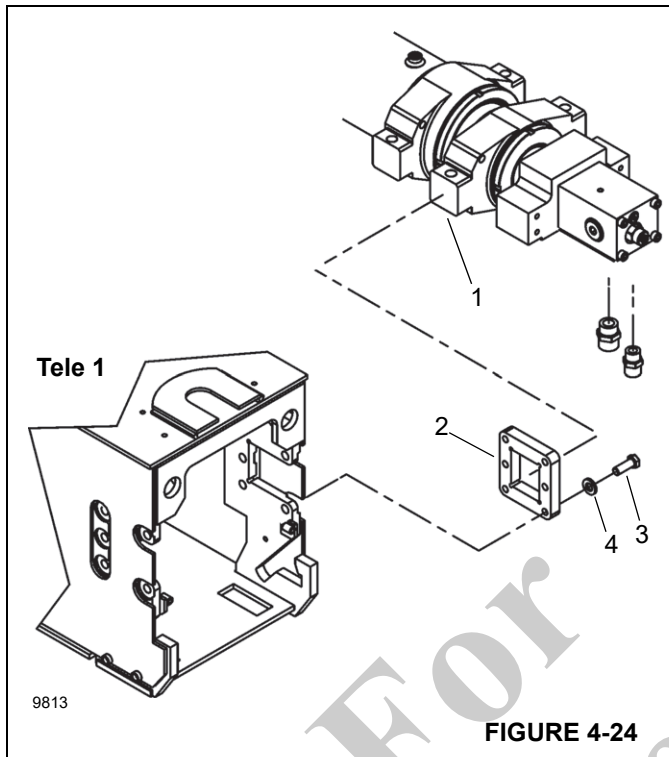

FIGURE 4-24
7. Loosely install trunnion plates (2, Figure 4-24) on telescope cylinder flanges (1).
10. Install capscrews (3, Figure 4-24), washers (4), and trunnion plates (2) to secure the telescope cylinder to the Tele 1 section boom.